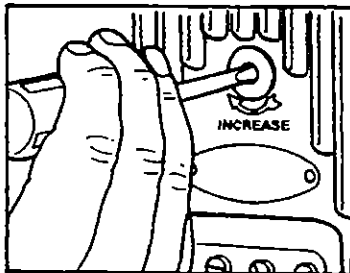

Figure 33
4. If not, the desired setting can be obtained by removing the plug from the voltage regulator cover and slightly turning the adjusting screw inside the regulator. Turn the adjusting screw clockwise to increase the voltage setting or counterclockwise to decrease it. See figure 33 for details.
**Resistor R2** = Turn voltage adjustment screw (identified in figure 33) with ohmmeter connecting each way. Reading should change as slotted screw is turned. If not, replace R2.